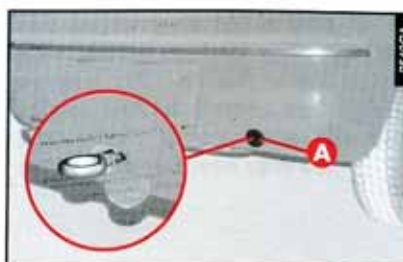

fig. 46
- On the rear end remove the lid (A-fig. 46) snap-fitted on the rear bumper as follows: